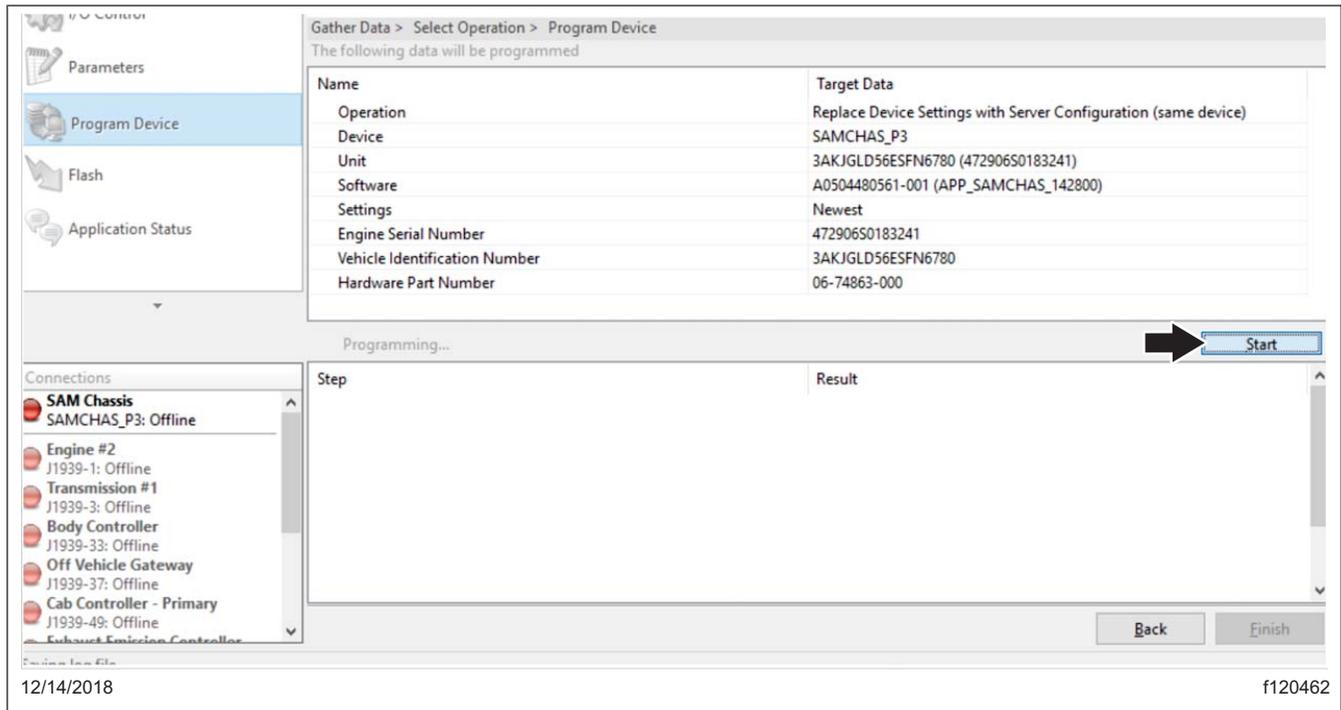

Fig. 10, Programming the Controller
12. Review and verify the VIN and hardware part number. Click "Start" to program the controller. The software will be flashed and the new parameter set will be written to the controller on the vehicle. See Fig. 10.